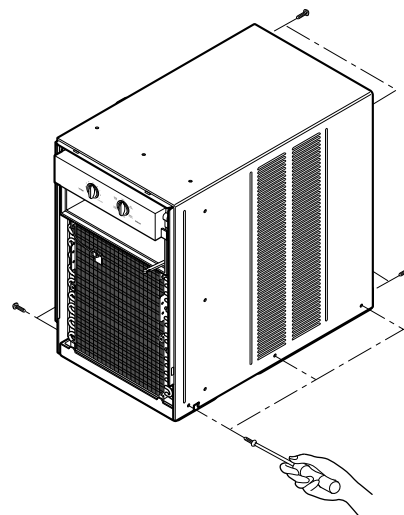

Figure 2
1. After disassembling the FRONT GRILLE, remove the 6 screws which fasten the cabinet at both sides.(See Figure 2)